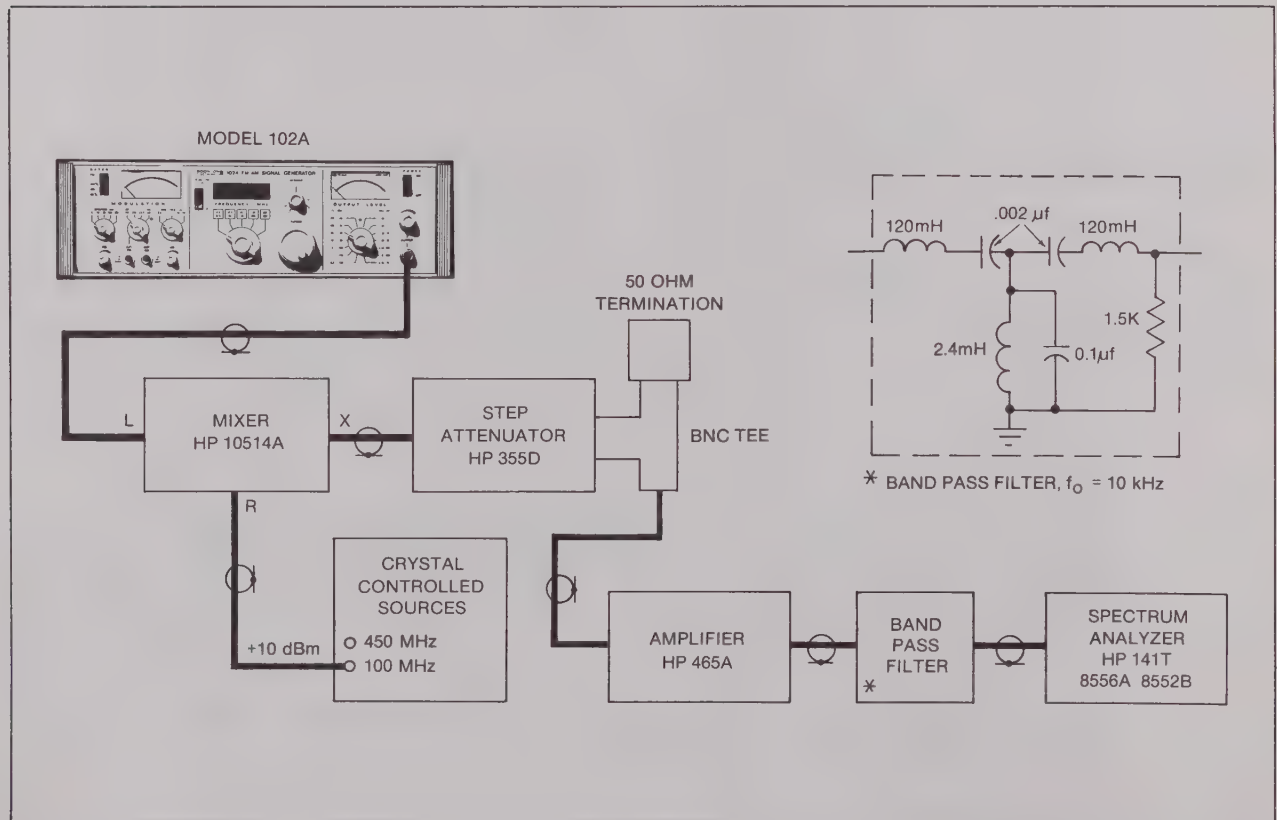

Figure 2-27 Single Sideband Phase Noise Check, Test Setup
a. Connect the Model 102A and test equipment as shown in Figure 2-27.